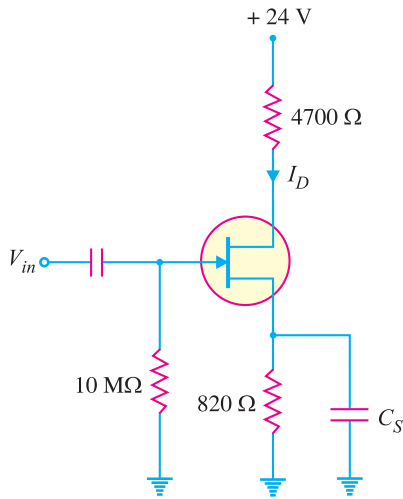

Fig. 19.64
3. In the *JFET* circuit shown in Fig. 19.64 if $I_D = 1.9$ mA, find V_{GS} and V_{DS} . [-1.56 V; 13.5 V]